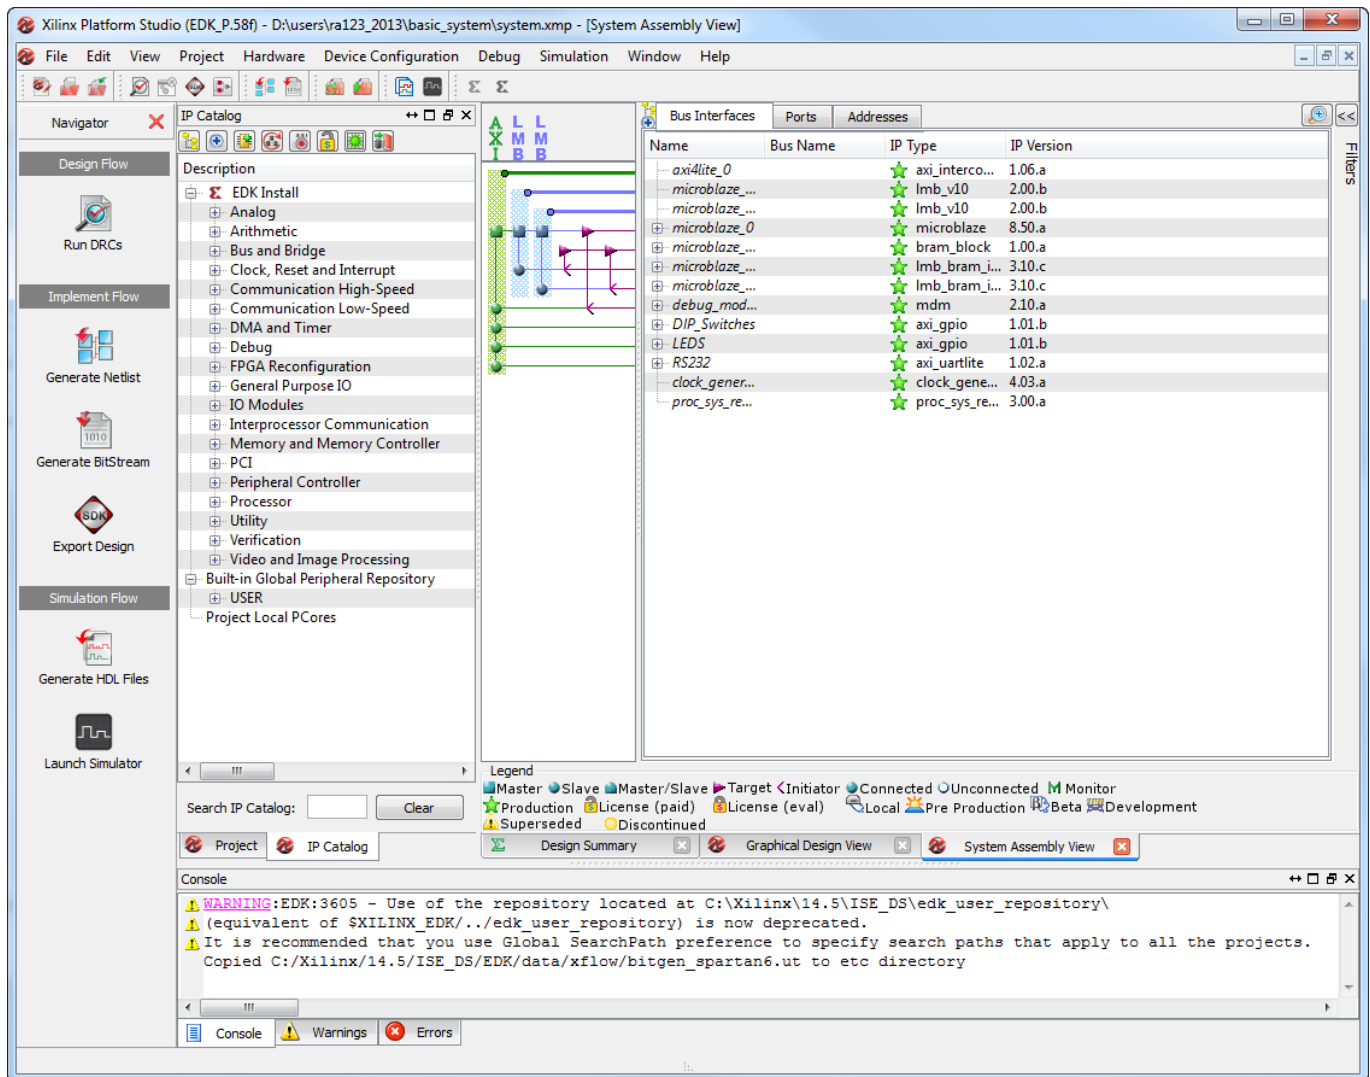

Figure 9: Launched XPS
7. Finally, Figure 9 shows lunched XPS window with System Assembly View tab.